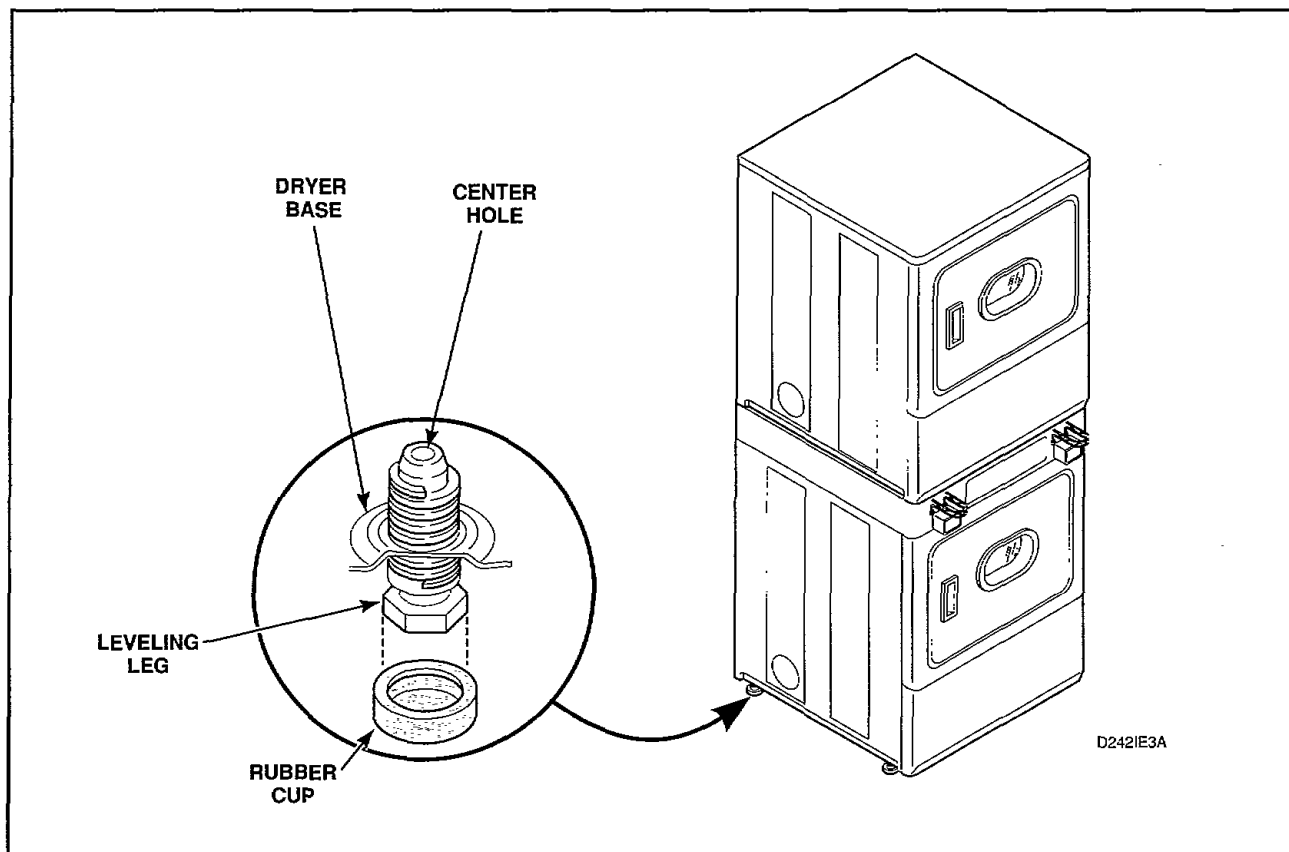

Figure 46
37. LEVELING LEGS (Figure 46)
- c. Place a rubber cup (supplied with dryer) under each of the leveling legs, *Figure 46*.